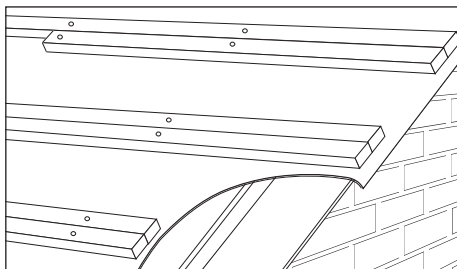

Fig. 2 – Double course of battens increase rigidity
- 3 For rafter pitches over 30°, where it is not possible to gain a firm fixing for ends of tiling battens, use a double course of battens across a complete rafter span (two fixings minimum), to increase rigidity of system (Fig. 2).
- 4 If, during setting out, vertical leg of cloak verge unit cannot be closely fitted with brickwork or bargeboard, fix fibre cement undercloak strip beneath tiling battens, to prevent ingress of birds and vermin (Fig. 2).